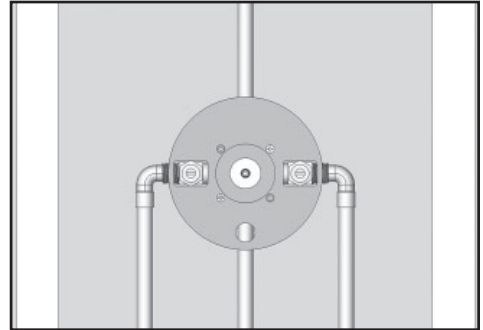

Figure 1
1. Rough valve body into wall, connecting piping to 1/2" Female copper sockets or 1/2" Male I.P. nipples. (SEE FIGURE 1)